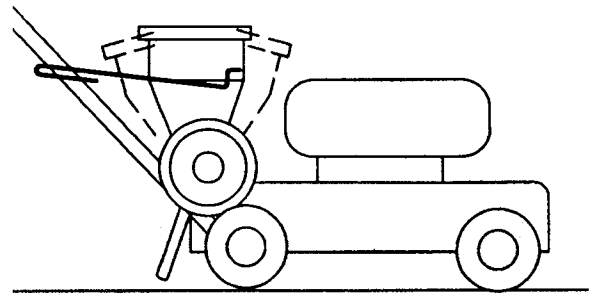

Figure 63
8. Adjust the hopper so it is level and tighten the handle knob securely to lock the hopper in place (Fig. 63).